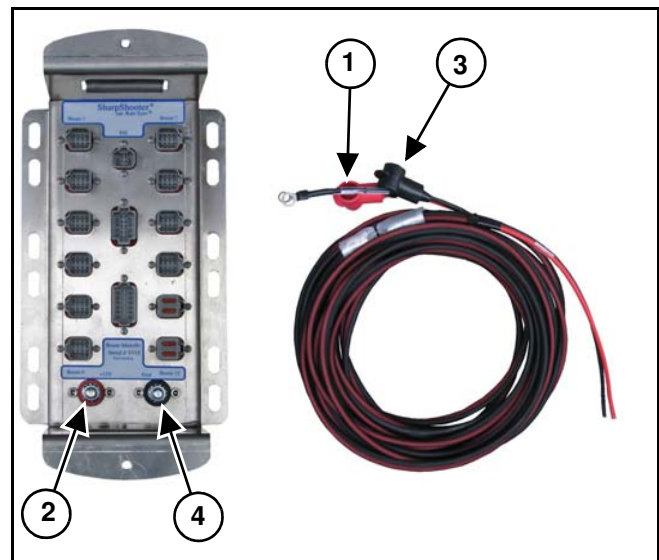

Figure 16
[Figure 16] - Connect the power harness red wire terminal (1) to the power hub 12V (+) terminal (2).